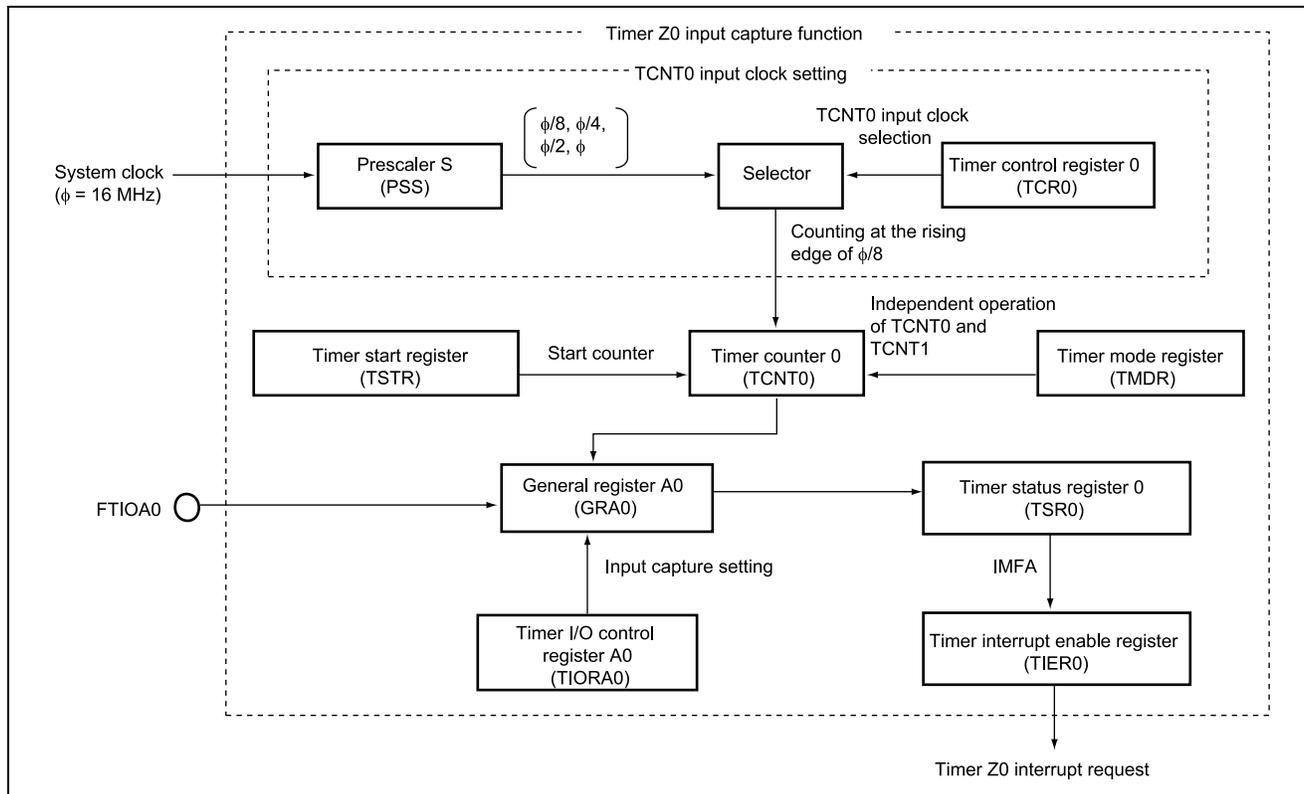

Figure 2.1 Block Diagram of Timer Z0
1. In this sample task, timer Z input capture function is used to measure the period of a pulse input from the input-capture pin A0 (FTIOA0). Figure 2.1 is a block diagram of timer Z input capture function. The elements of the block diagram are described below.